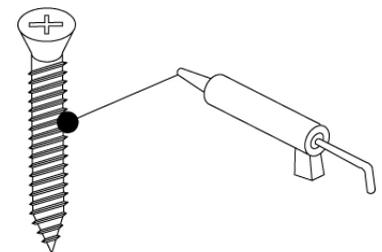

FIG.2A
4. Apply silicone to the 3/4" screw (#18) threads. [SEE FIG.2A]